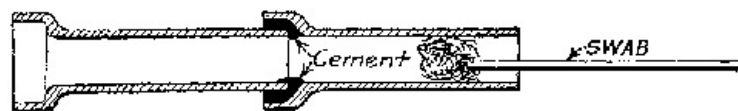

Fig. 39.—Showing use of the swab.
*First.*—The bottom of the hub of pipe in place is filled with cement and the straight end of the next piece of pipe is laid in place, then more cement is placed into the hub until the space between the hub and the pipe is filled. In a trench, a trowel is rather unhandy to work with, while the hands can be used to better advantage. The cement can be forced into place with the hands and then surfaced with a trowel. The rest of the operation is to swab out the inside joint to remove any cement that perchance was forced through the joint (see Fig. 39). The cement used should be  $\frac{1}{2}$  cement and  $\frac{1}{2}$  clean sharp sand.